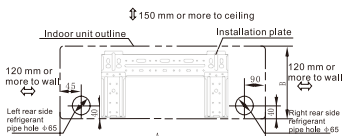

Fig 5
Determine hole positions according to the diagram detailed in Fig.5. Drill one (1) hole (φ6.7mm) slanting slightly to outdoor side.